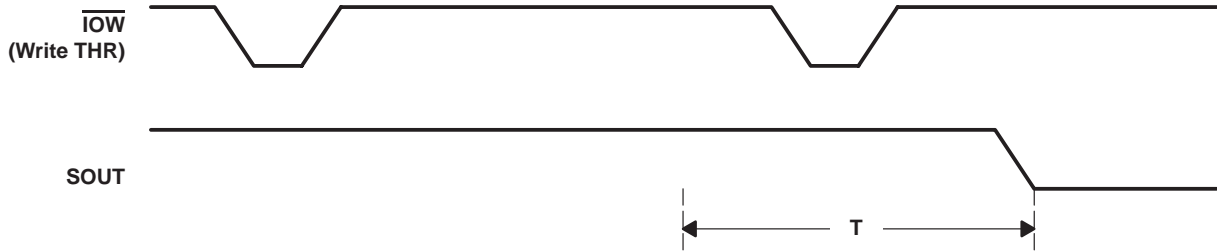

Figure 22. Error Case Timing Condition
- Second write to a previously empty transmit FIFO occurs within a window T before the start of the SOUT signal corresponding to the first character written to the transmit FIFO as illustrated in Figure 22. T is defined as: